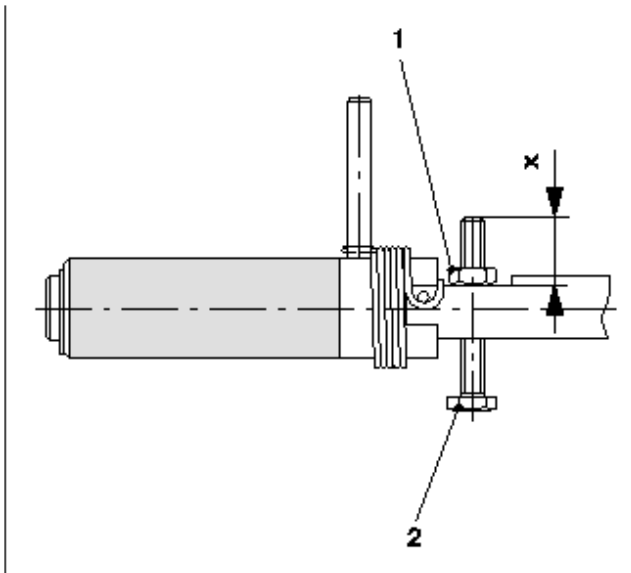

Fig. 3 Handle assembly on D.S.
4. Measure the distance x (Fig. 3) between the end of the hexagonal screw and the recess in the shaft, and note down the measured value (e.g. 19.1 mm), in order to avoid future re-adjustments.